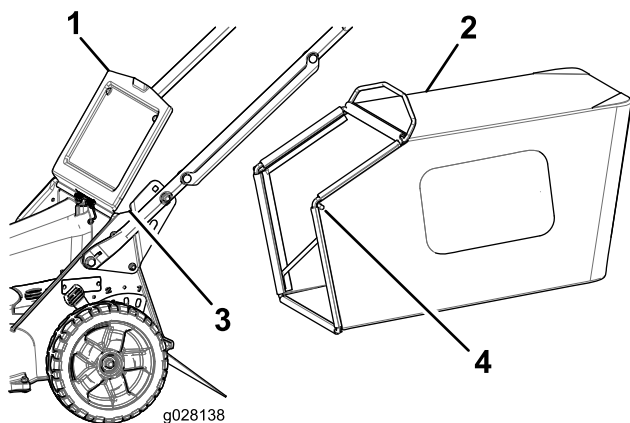

Figure 17
2. Raise and hold up the rear door (Figure 17).
4. Install the bag-rod ends into the notches at the base of the handle, and rock the bag back and forth to ensure that the bag-rod ends are seated at the bottom of both notches (Figure 17).
3. Remove the bag rod on the grass bag from the notches at the base of the handle (Figure 17).